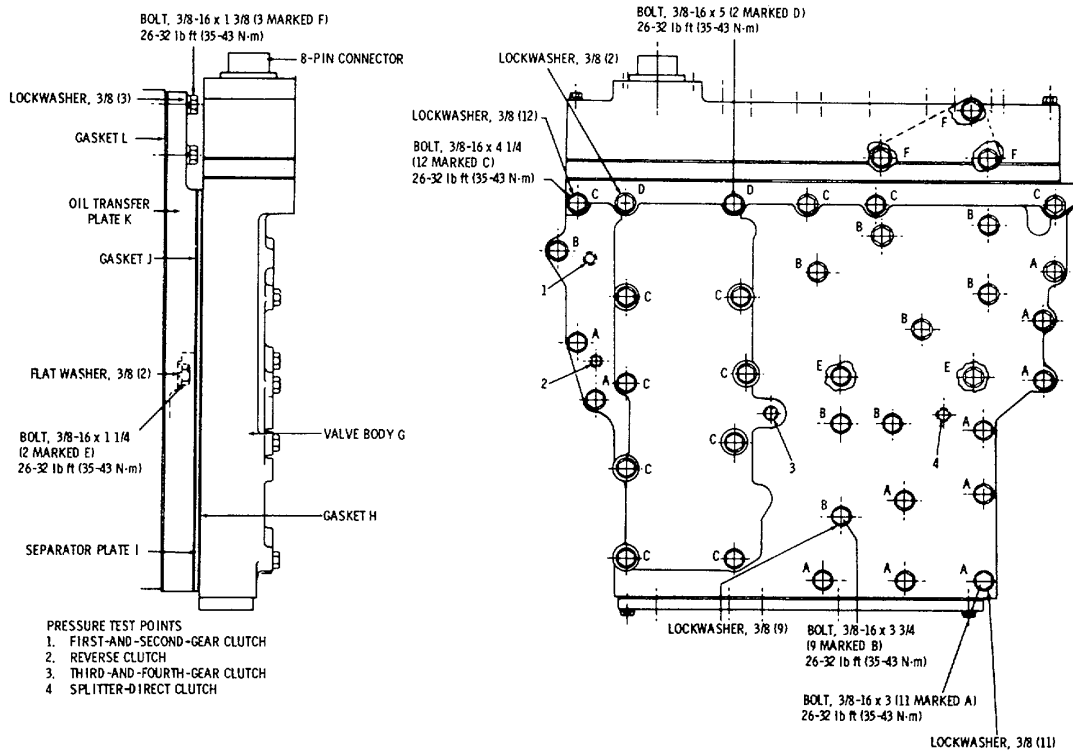

Figure 15-186. Valve Body Components and Mounting Bolts
7. See Figure 15-186. Install two 3/8-16 x 6 inch headless guide bolts into holes marked C at the front and rear of the valve body mounting pad on the transmission housing. These bolts should be installed near the upper part of the mounting pad.